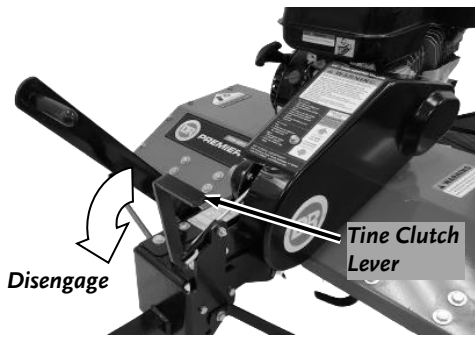

Figure 11
2. Pull the Tine Clutch Lever all the way forward until it locks into place to disengage the Tines (**Figure 11**).